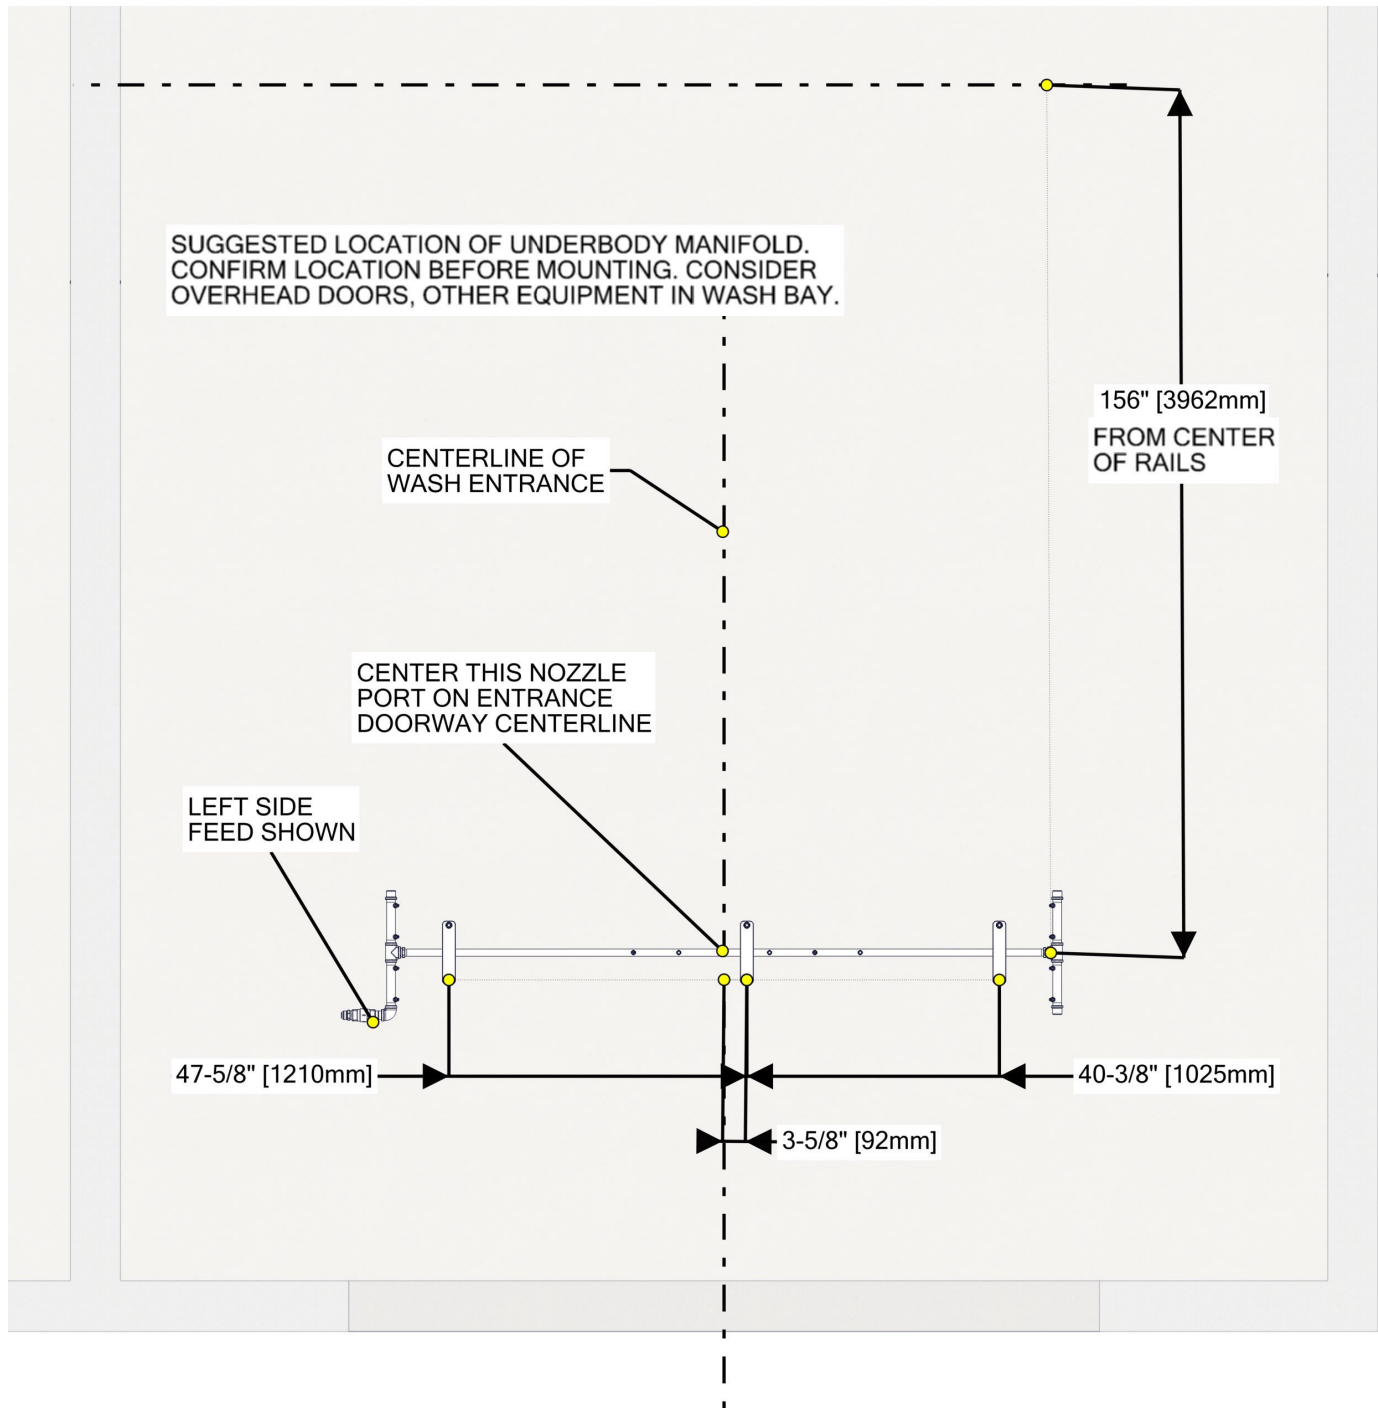
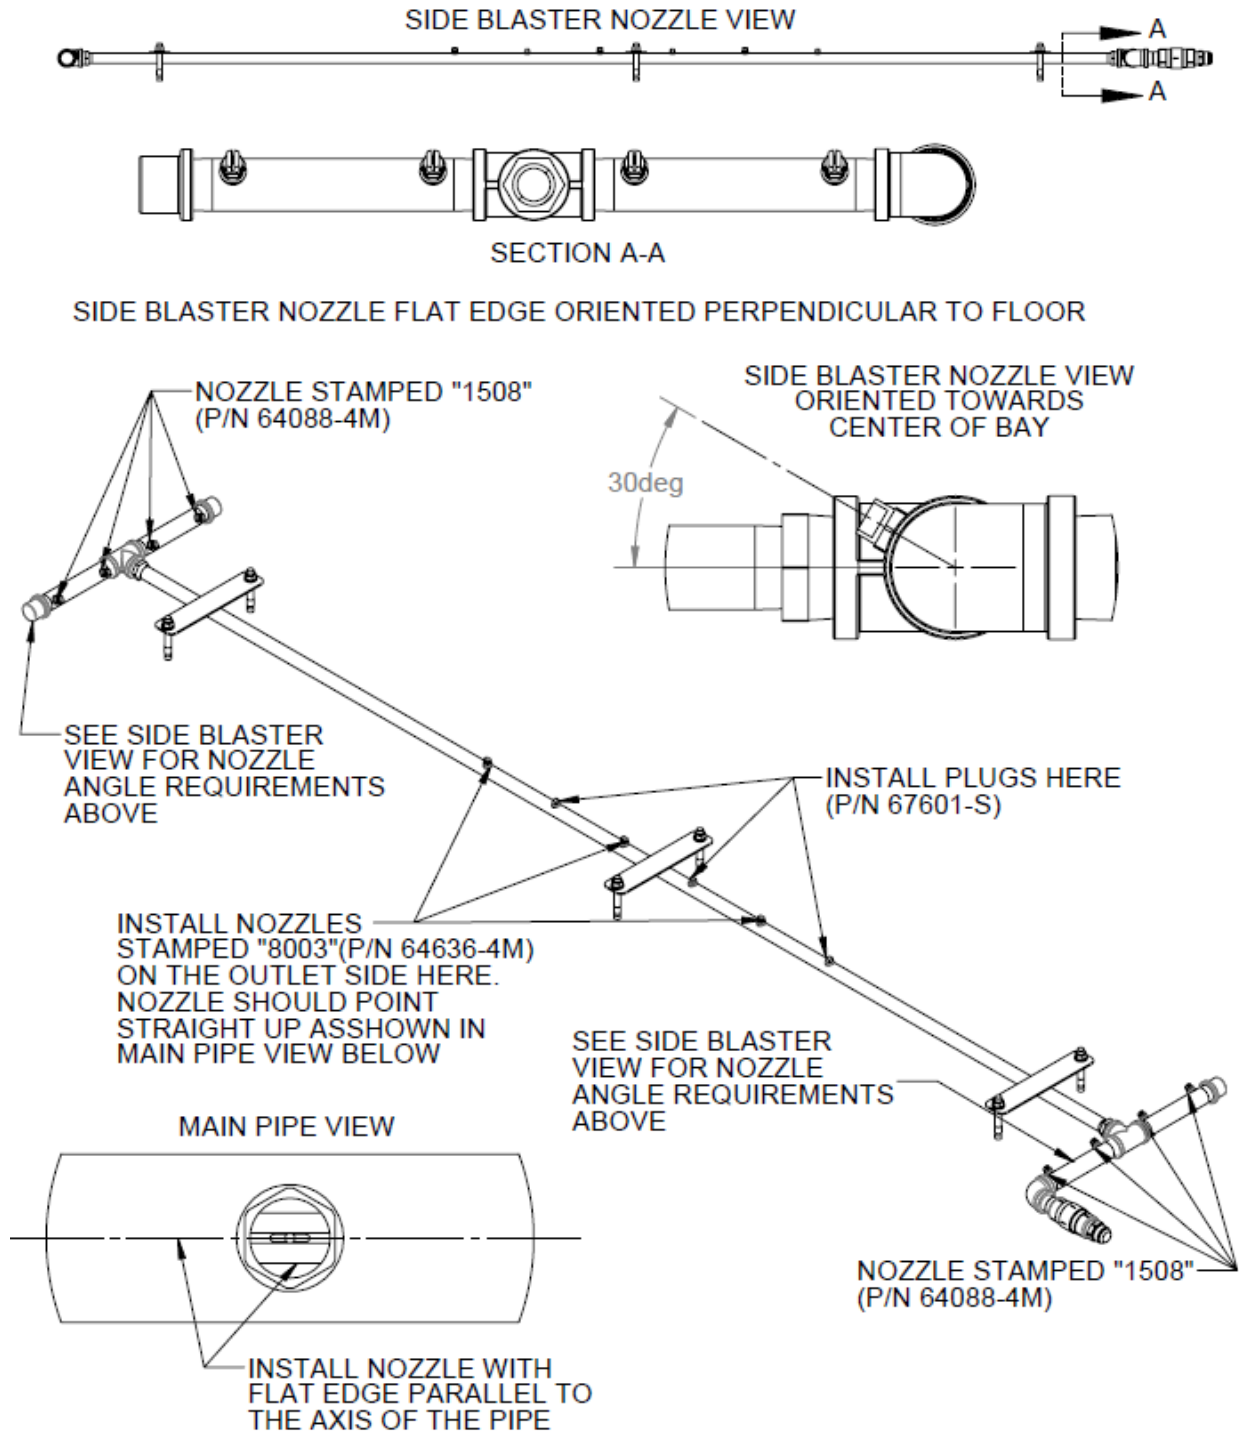

Figure 113 – Locate and Mount Underbody Manifold in Wash Bay
Figure 117 - High-pressure Drive Through Underbody Nozzle Assembly (Right Side Feed shown)
- To change the feed side, either rotate the manifold 180 degrees from the orientation shown in Figure 113, or disassemble the manifold at the end of each of the side blaster assemblies.
- After startup, and the manifold is flushed of debris, install the nozzles in the orientation shown. See Figure 117 for proper nozzle assembly, right side feed shown. See Figure 113 for left side feed.